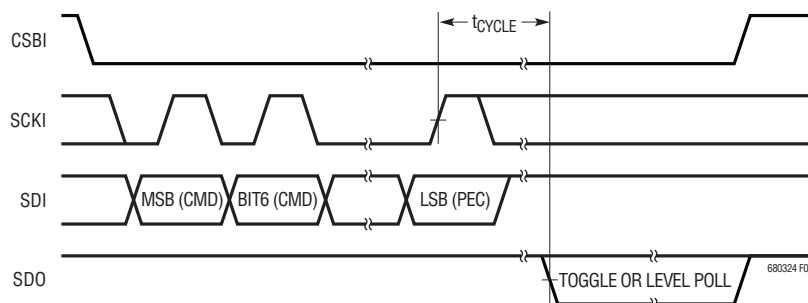
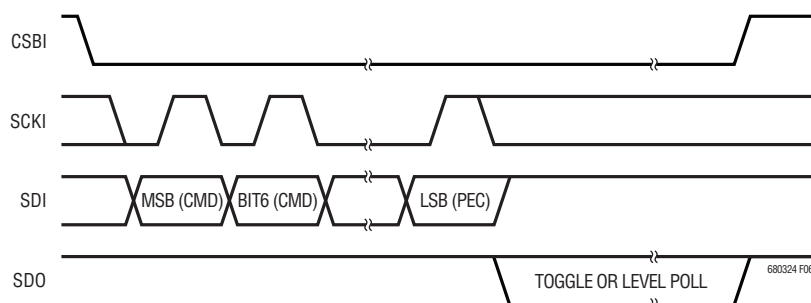

Figure 5. Transmission Format (ADC Conversion and Poll)
Figure 6. Transmission Format (PLADC Conversion or PLINT)
**Polling Methods:** For ADC conversions, three methods can be used to determine ADC completion. First, a controller can start an ADC conversion and wait for the specified conversion time to pass before reading the results. The second method is to hold CSBI low after an ADC start command has been sent. The ADC conversion status will be output on SDO (Figure 5). A problem with the second method is that the controller is not free to do other serial communication while waiting for ADC conversions to complete. The third method overcomes this limitation. The controller can send an ADC start command, perform other tasks, and then send a poll ADC converter status (PLADC) command to determine the status of the ADC conversions (Figure 6). For OV/UV interrupt status, the poll interrupt status (PLINT) command can be used to quickly determine whether any cell in a stack is in an overvoltage or undervoltage condition (Figure 6).